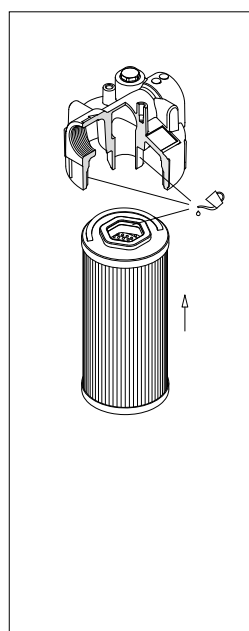

fig. 4
- (Fig. 4) Lubricate with the operating fluid the filter element seal, the housing tap and cavity, then fit the filter element on the tap. Pay attention not to damage the Hex-ring seal